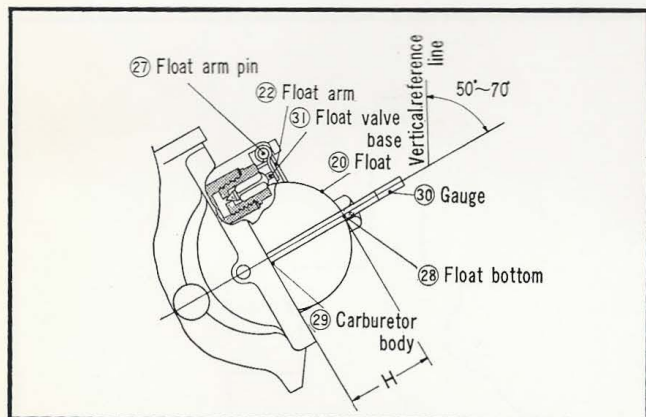

Figure 3-111. Fuel level adjustment
It is difficult to directly measure the fuel level, therefore, the fuel is determined by measuring the height (H) of the float. (Fig. 3-111, 3-112)
- (1) Position the carburetor as shown in Fig. 3-111 with the float arm pin ㉓ toward the top and the float ㉖ at the bottom and tilt the carburetor to the point where the float arm ㉔ is about to break contact with the float valve base. This should occur when the carburetor is tilted approximately 70° or at any point between 50° to 70° . That is, the float arm should be at a point where the base of the valve is not compressed.
- (2) In this position, the float bottom ㉘ is measured from the carburetor body ㉙ with the gauge ㉗ to determine the height (H). The tolerance of the float position is 1mm (0.040 in) both ways. In other words, the gauge should not press the float more than 1mm, nor should there be clearance greater than 1mm between the gauge and the float. Care should be exercised in making the measurement since the base of the valve is spring loaded and can be compressed into the valve in which case, the true closing point of the valve cannot be determined.